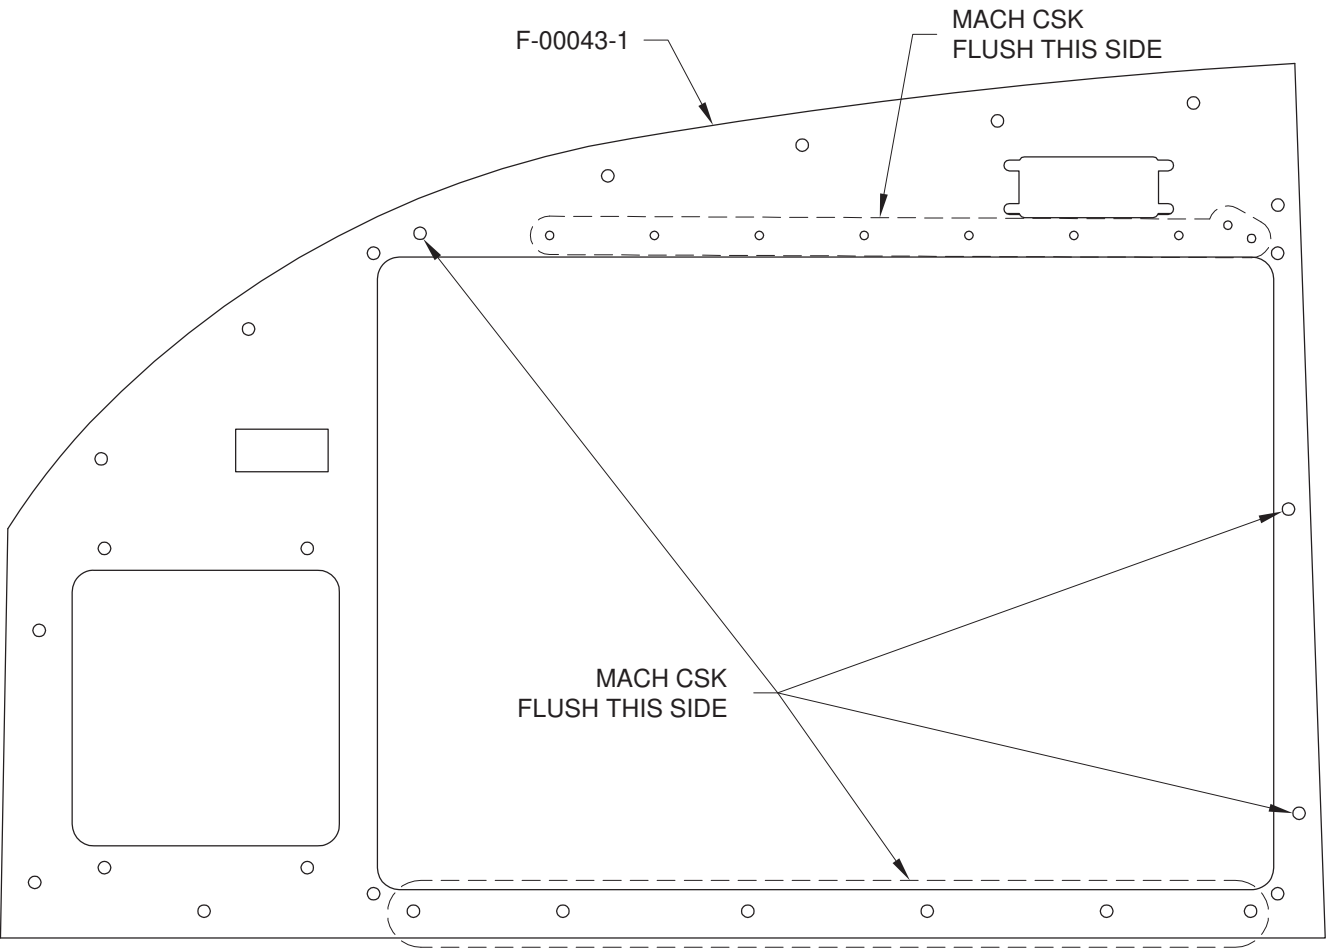

FIGURE 2: COUNTERSINKING THE F-00043-1
Step 2: Machine countersink the aft (pilot) side of the F-00043-1 as shown in Figure 2.